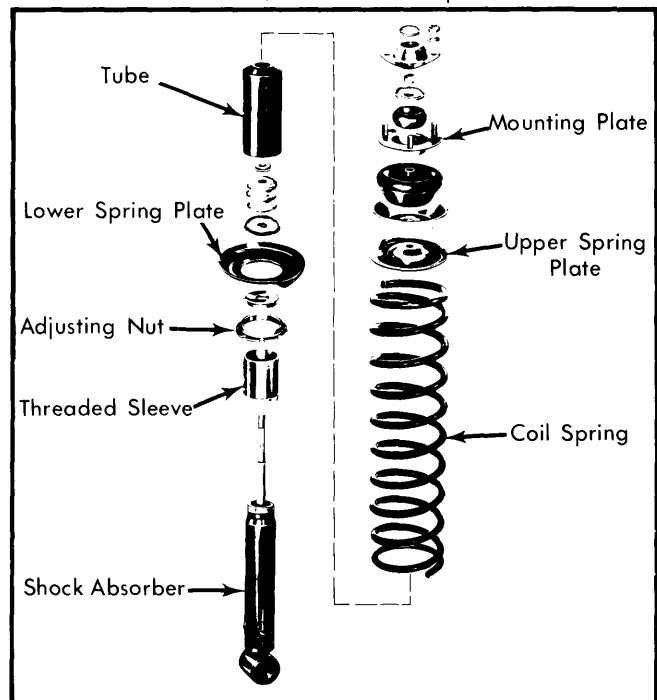

Fig. 2 Disassembled View of 928 Strut Assembly
**Reassembly** – Reassemble in reverse of disassembly procedure, using appropriate illustration as a guide. Fig. 2.